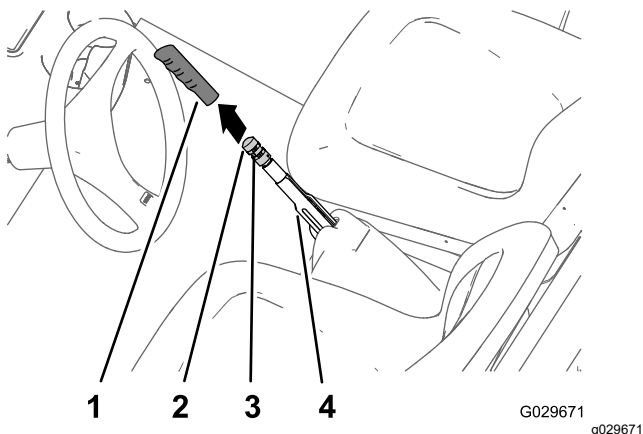

Figure 50
1. Remove the handgrip from the parking-brake lever (Figure 50).
2. Loosen the set screw securing the brake-adjustment knob to the parking-brake lever (Figure 50).
3. Rotate the brake-adjustment knob until you reach a force of 133 to 156 N (30 to 35 lbf) to engage the parking-brake lever (Figure 50).
4. Tighten the set screw and install the hand grip (Figure 50).
2. Loosen the set screw (Figure 50) securing the brake-adjustment knob to the parking-brake lever, disengage the parking brake, and loosen the brake-adjustment knob.
5. Rotate the brake-adjustment knob (Figure 50) until a force of 133 to 156 N (30 to 35 lbf) is required to engage the parking-brake lever.
- C. Rotate the brake-adjustment knob (Figure 50) until a force of 133 to 156 N (30 to 35 lbf) is required to engage the parking-brake lever.
- Tighten the set screw and install the handgrip (Figure 50).